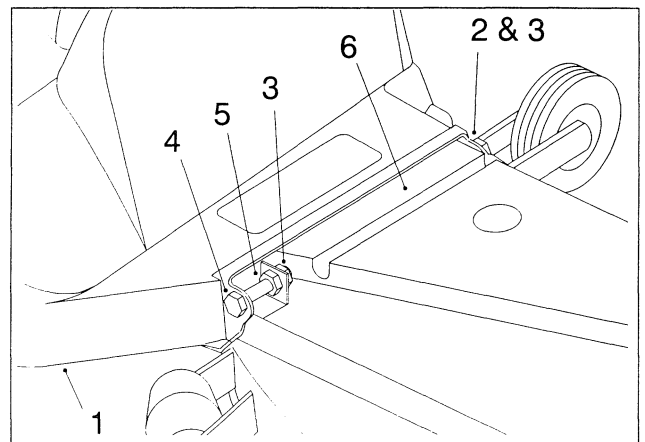

Figure 10
a. Insert a 1/4" x 1-1/2" hex-head bolt through the **right-hand** side of the blower cover. Thread a *regular* nut onto the bolt about 3/8" (1 cm) from the end. Push the bolt through the hinge clip hole and install the *nylon* lock nut so one thread protrudes through the nut (Fig. 10). Then tighten the *regular* nut against the clip.
b. Mount the **left-hand** side of the blower belt cover to the mower belt cover using a 1/4" x 5/8" bolt and 1/4" nylon lock nut (Fig. 10). Tighten the lock nut until you feel a slight drag on the cover when you rotate it.